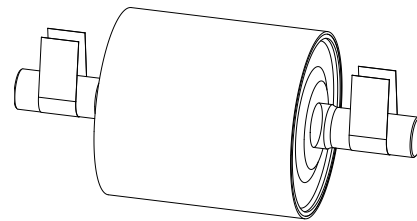

Figure 2 - Alternate lifting diagram for pulley assemblies
2. If the pulley assembly cannot be lifted by placing the nylon straps around the pulley, the straps can be placed around the shaft. The straps must be placed as close as possible to the pulley. Refer to figure 2.